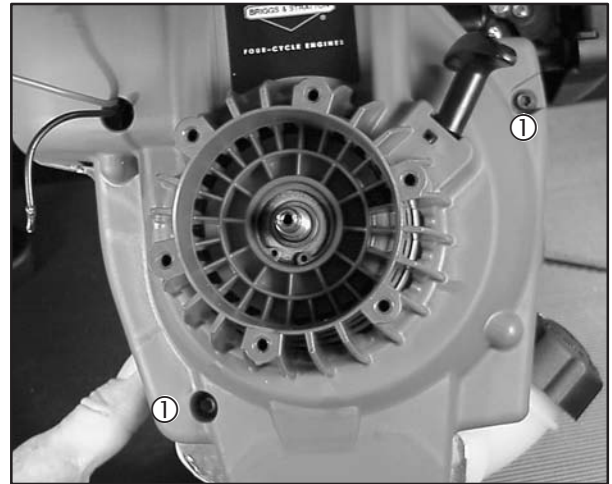

Fig. 13
2. Install 2 screws in blower housing, Fig. 13. Torque screws to 40 in. lbs. (5 Nm).